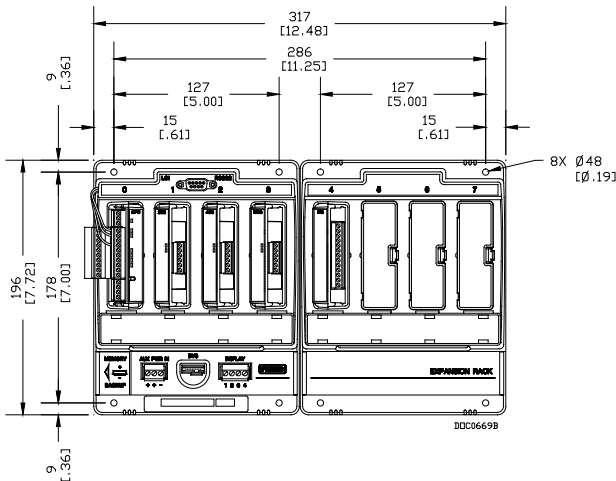

Figure 4. FB107 and Expansion Rack Dimensions
- **Main unit and expansion rack.** Position the main unit on the enclosure mounting plate and locate mounting holes on the plate using the FB107 as a template. See Figure 4 for dimensions of main unit with expansion rack. Drill and tap mounting holes in the plate with an 8-32 UNC thread tap. Position the main unit over the tapped locations and attach to the plate with the four 8-32 UNC x 1.00 inch-long screws provided. Do not fully tighten. Plug the expansion rack into the main unit and while